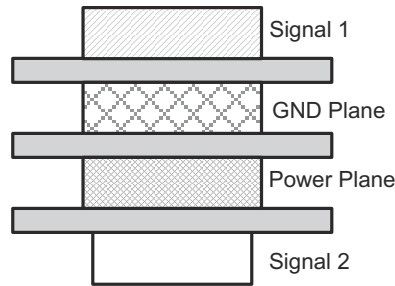

图 11-2. Example Layout
- When working with high frequencies, a printed circuit board with at least four layers is recommended; two signal layers separated by a ground and power layer as shown in 图 11-2.